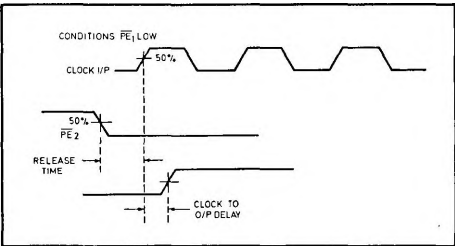

Fig. 4 Release timing diagram
6. Release time is defined as the minimum time that can elapse between a H $\rightarrow$ L transition of a control input and the next L $\rightarrow$ H clock pulse transition to ensure that the ± 11 mode is forced by that clock pulse (see Fig. 4).